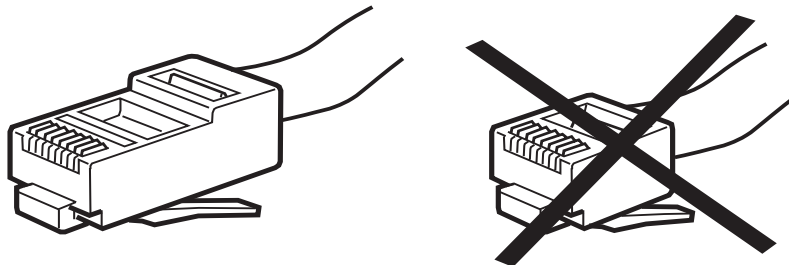

Figure 14 The 8-pin RJ45 modular plug connector. Note that we do not recommend the shorter connector type for use.
- 8-pin modular RJ45 (8/8) system plug connector. See figure 14. We recommend that you use the plug connector with long contacts and a long clasp, which can be designed for round or flat cables. Use high-quality connectors with gold plated pins.
(If there is not enough room for the connector, it is possible to use the RJ modular plug connector with short contacts. The purpose of figure 14 is to make it clear that you should be aware of the difficulties involved in removing the connector from the socket. A tool is necessary, which could damage the module.)